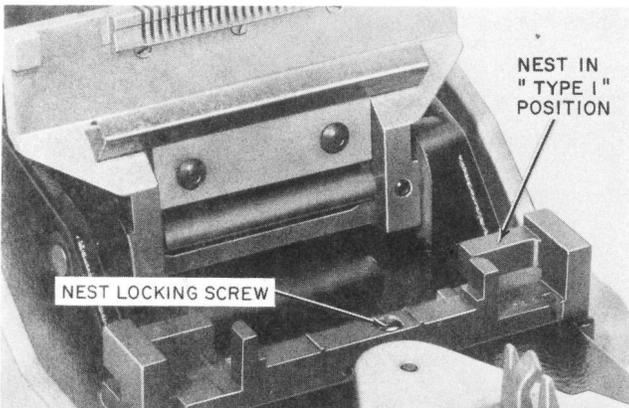

Fig. 11—Connector Nest in Type 1 Position
4.07 Nest—To replace a damaged or defective nest, first remove the locking screw (Fig. 11) and lift off the nest. Put a new nest in position and lock it down with the screw.